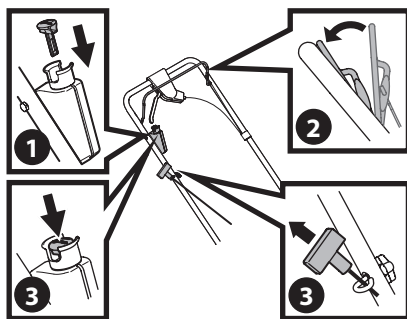

Figure 4
1. **Electric Start Units Only** - Insert plastic electric starter push key into starter housing located on the right side of upper handle until it snaps in place (Figure 4).
2. Standing behind the mower, pull the blade control handle back against the upper handle (Figure 4).
- **Electric Start (If Equipped):** Push the electric starter push key to start the engine (Figure 4).
2. Standing behind the mower, pull the blade control back against the drive control (Figure 4).
- **Recoil Start:** While holding the blade and drive controls together firmly, pull the recoil starter handle lightly until resistance is felt, then pull rapidly to overcome compression, prevent kickback, and start the engine. Repeat if necessary (Figure 4).